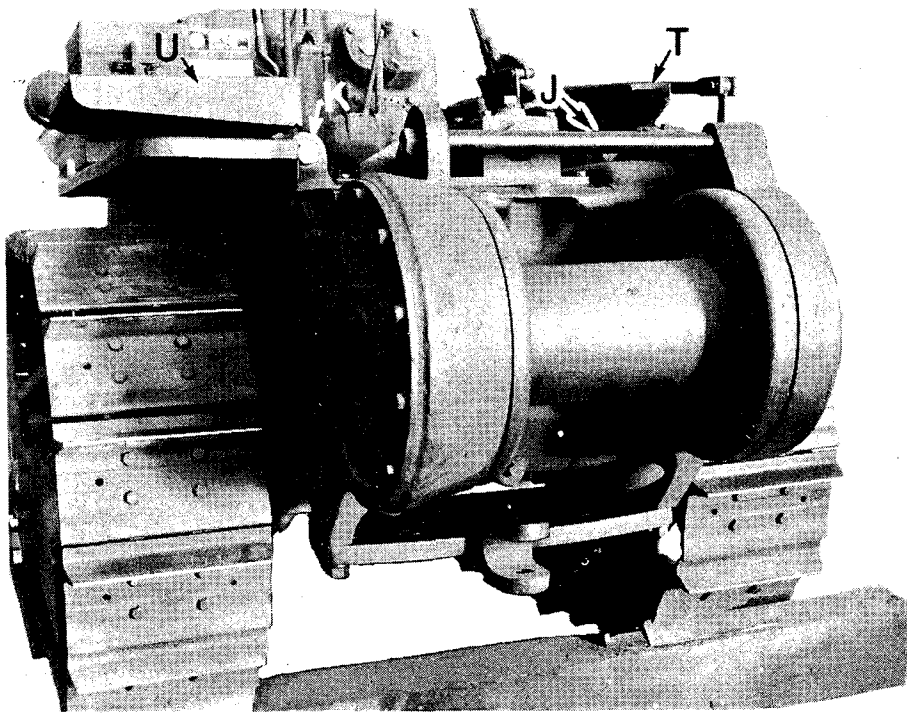

Figure 8
16. Figure 8, page 16, shows winch assembled to tractor with seat support brackets for *wide seat*.